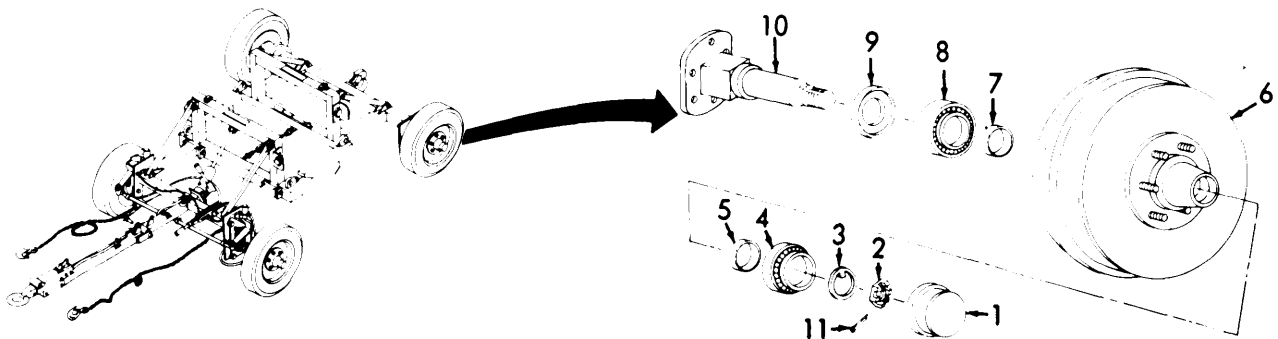

Figure 3-36. Rear Wheel Bearings, Removal.
- (1) Remove grease cap (1, Figure 3-36) cotter pin (11), nut (2), and key washer (3).
- (2) Pull drum (6) from spindle (10).
- (3) Remove bearing (4) and cup (5) from drum (6).
- (4) Remove retainer (7), bearing (8), and grease seal (9) from spindle (10).